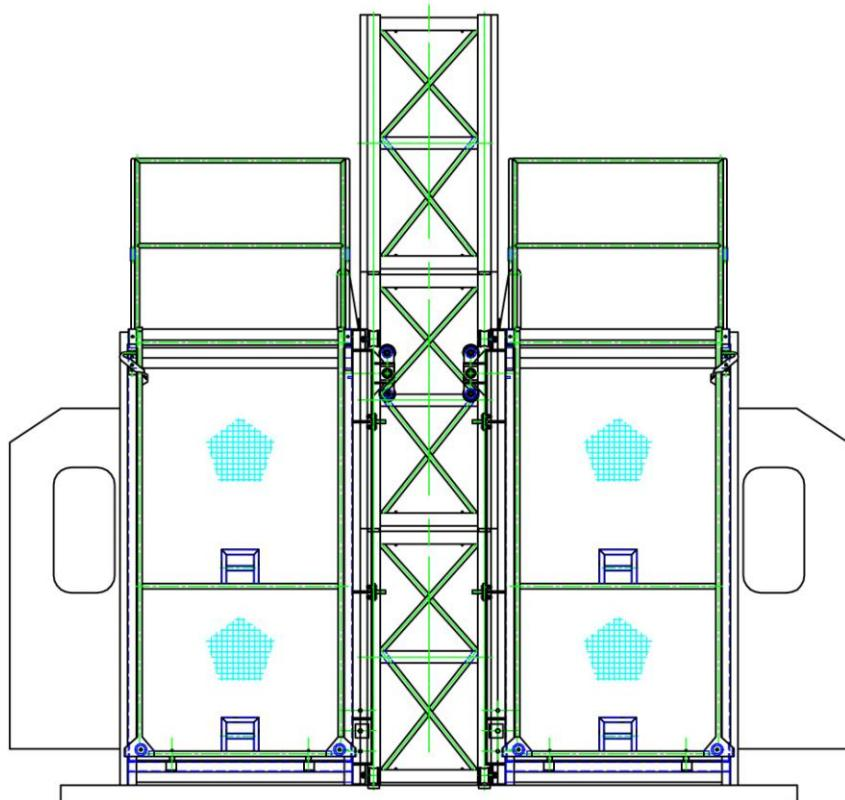

Figure 4
4.4.4 Install another mast section for construction elevatorwith lifter machinery, Tight coupling bolts(see figure 4)